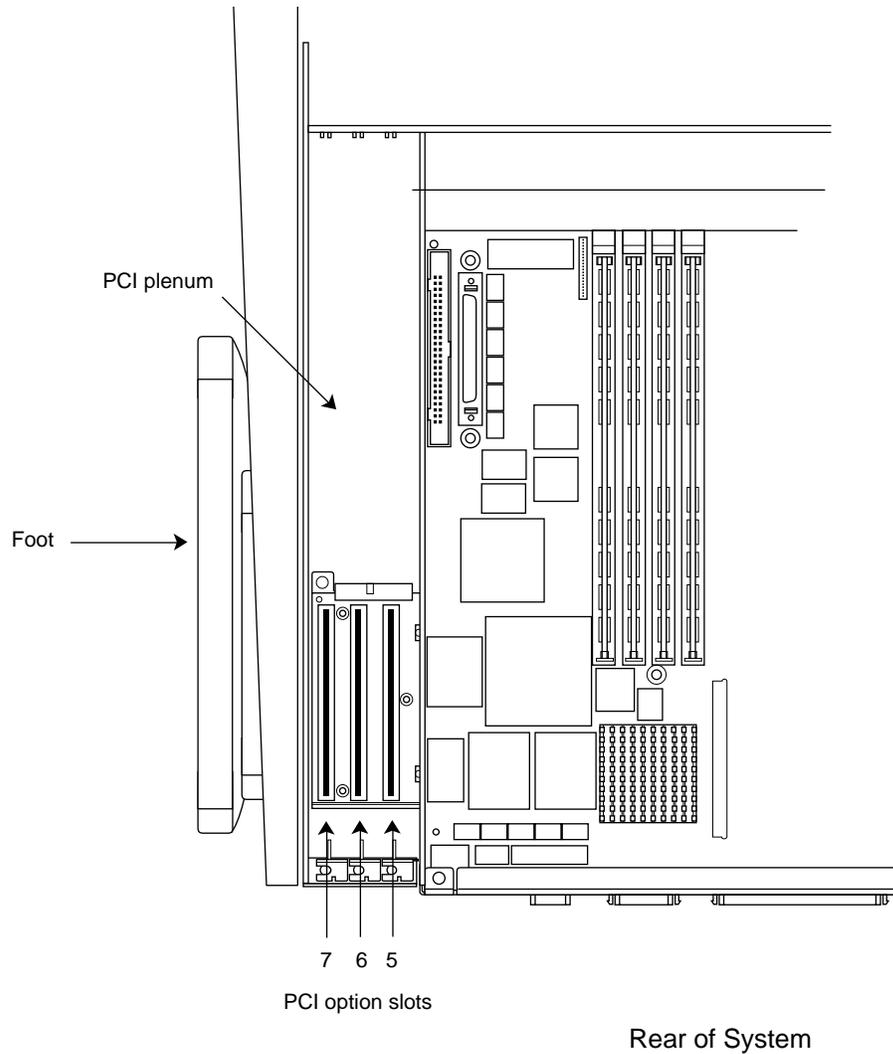

Figure 6-2 Locating the PCI Option Slots
5. Locate an available PCI option slot. See Figure 6-2.